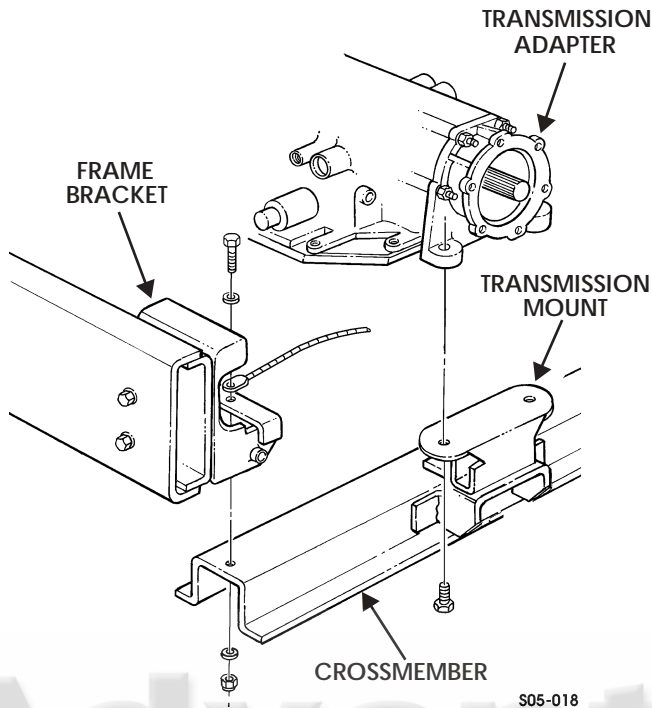

Figure 5-59: Transmission Adapter
21. Remove two capscrews from transmission adapter and transmission mount (Figure 5-59).